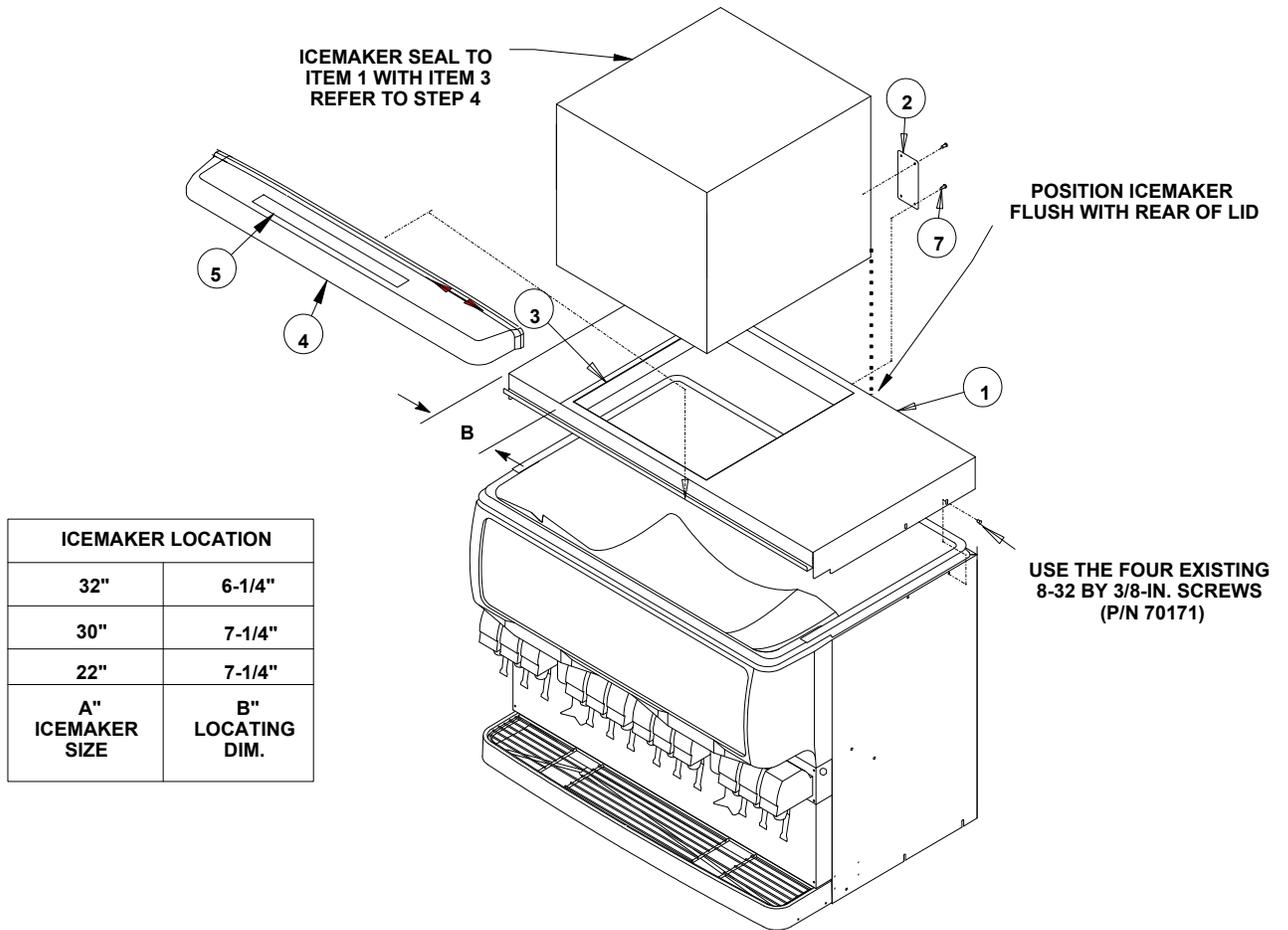

Figure 1. Dispenser
4. Seal the icemaker to the top of the dispenser after determining the correct location for the ice maker (see Figure 1).
7. Locate the cleaning caution label (item 5) on the manual ice fill cover (item 4) as shown in Figure 1. Place the manual fill cover in position over the flange on the lid assembly and the front access hopper opening.